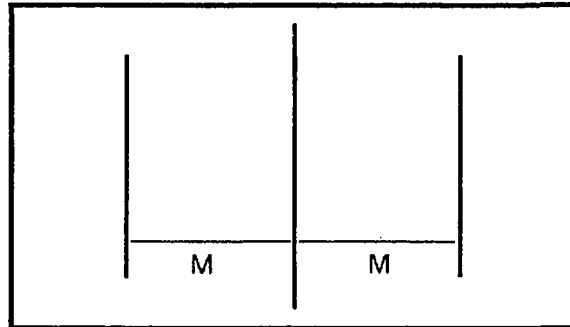

Figure 6 Dimension "M"
1. Park vehicle on a level surface 7.6 m (25 feet) from a vertical test screen or wall. Mark the screen or wall according to Figure 6. Align the vehicle centerline with the center mark on the test screen. The centerline of the vehicle must be at a 90° angle to the test screen.